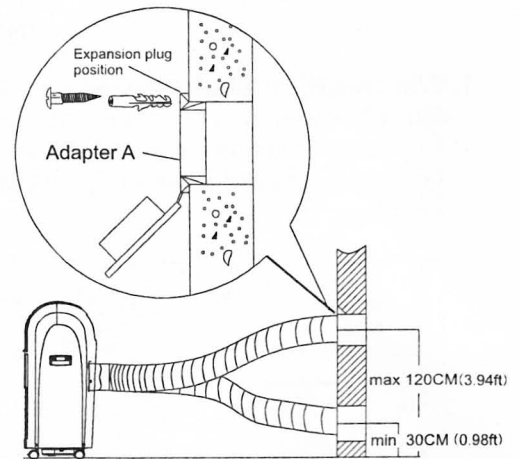

Fig. 8
2. Install the adaptor A onto the wall by using 4 expansion plugs and screws, be sure to fix thoroughly. (See Fig. 8)